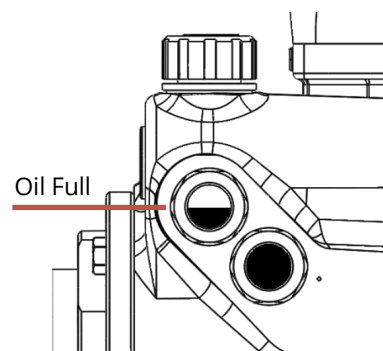

Figure 5
12. Fill gear casing with approximately 2.1qt (2.0L) oil to halfway mark on upper sight glass. See Figure 5. Use MOBIL SCH 634 Synthetic Bearing and Gear Oil.